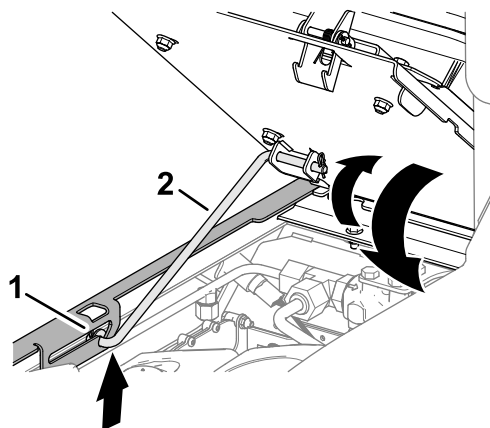

Figure 109
1. Rotate the seat slightly, and lift the prop rod out of the dent of the seat support slot (Figure 109).